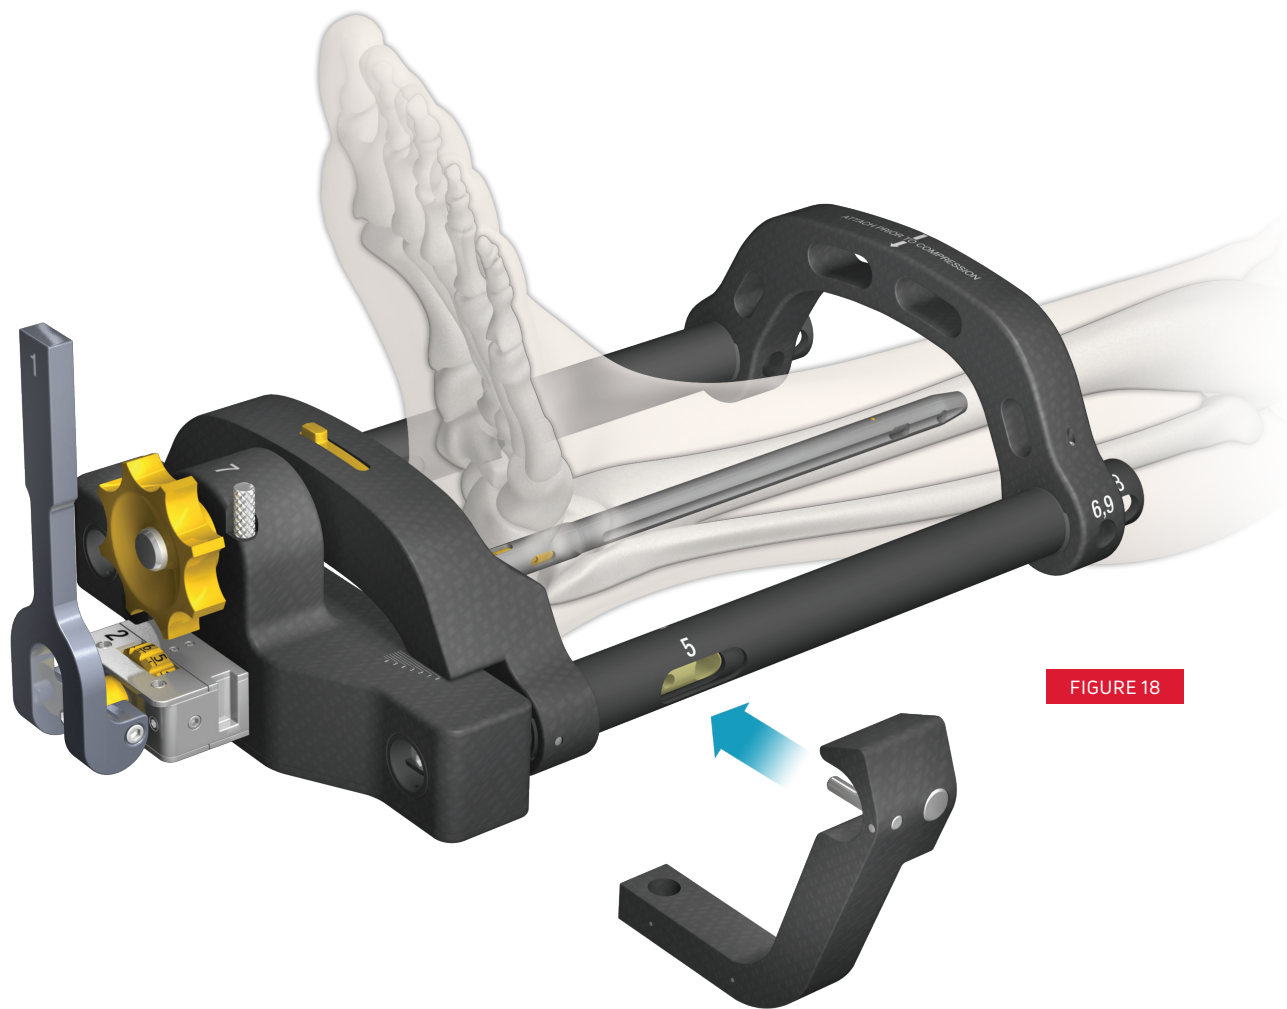

FIGURE 18
Attach the Posterior-Anterior (PA) Attachment to the right side of the DynaFrame™ Assembly (**FIGURE 18**). The Headless PA Screw should be aimed toward the calcaneocuboid (C-C) joint. If the calcaneus is deformed such that there is limited purchase for the Headless Screw, externally rotate the DynaFrame Assembly so that the PA Attachment targets towards the desired entry point.